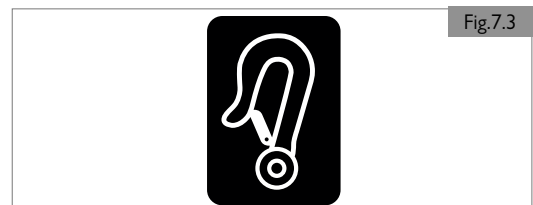

Fig.7.3
- The tie-down points (2 in the front, 2 in the back) are indicated by the tie-down symbol (Fig. 7.3). Fit the front straps first, then the rear. Tension the straps to secure the wheelchair. The wheelchair may not be secured onto any accessories (armrests, anti-tip brackets, etc.).